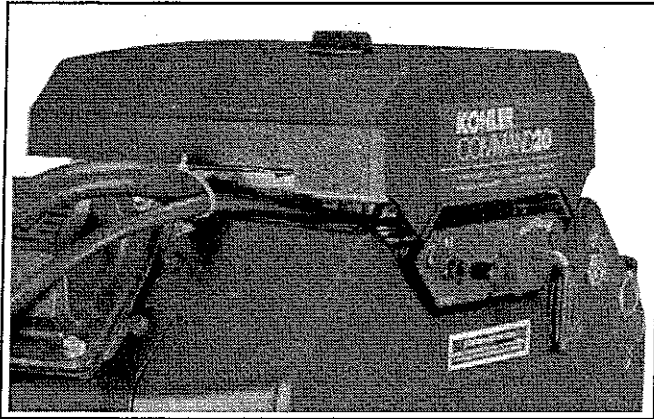

Figure 5. Optional Engine Mounted Throttle and Choke Controls.
1. Place the throttle control in the **idle** position. Place the choke control into the **"on"** position. See Figure 5. On dual-fueled engines, place the three-position fuel control switch in the **gasoline** position and place the throttle control between half and full throttle (engine **must** be started and run on gasoline for 1 minute to heat up oxygen sensor).